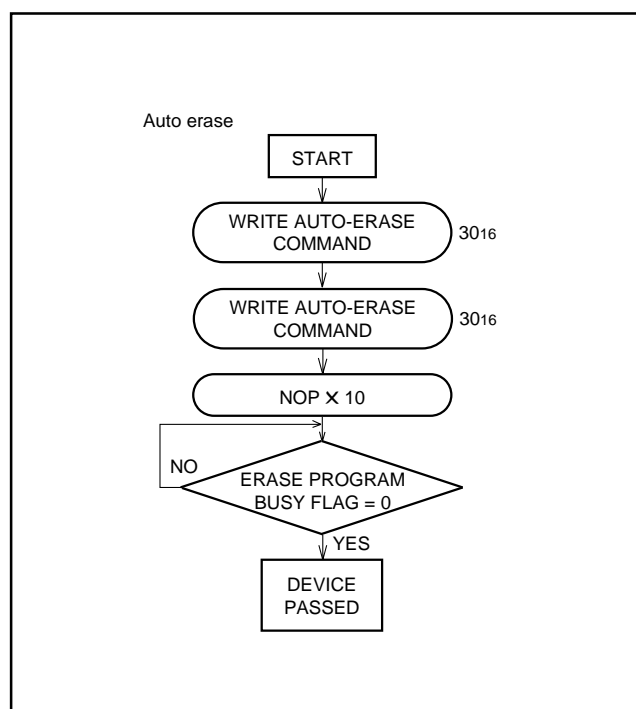

Fig. 25 Flowchart when program/erase/auto erase is executed (2)
**Note:** When the flash memory is erased by using the auto erase command, it is unnecessary to execute the erase and erase verify commands. Figure 25 shows the flowchart when auto erase is executed.